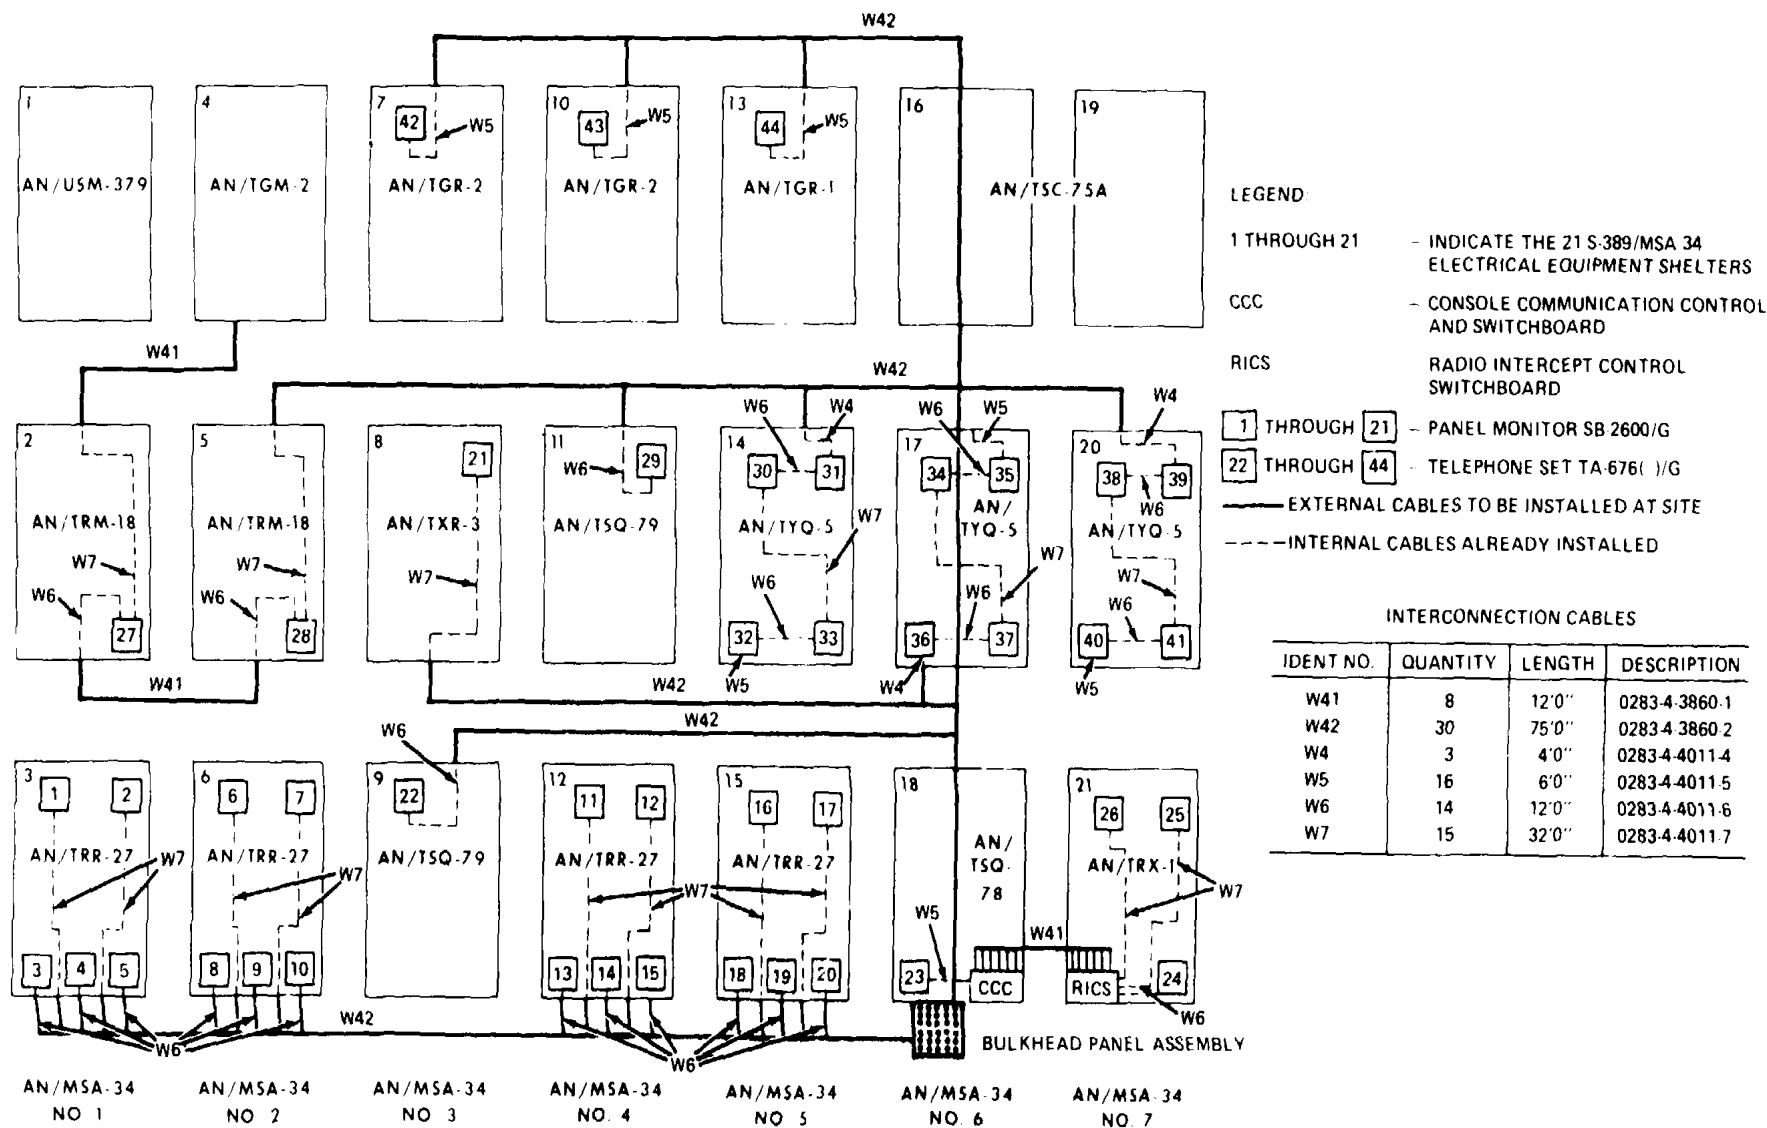

Figure 2-3. Intercommunication System
d. *External Intercommunication Connections.* To connect the external intercommunication connections (figures 2-3 and 2-4) after all the centrals are in place, proceed as follows:
(1) Remove the eight 12-foot interconnecting cables marked W41 and the thirty 75-foot interconnecting cables marked W42 from the storage cabinets.
(2) Using six of the W41 cables, interconnect the Communications Control Console (CCC) OA-7735/G
to the Radio Intercept Control Switchboard (RICS) SB-2602/G located in the Radio Identification Central AN/TRX-1 as shown in figure 2-3 and listed in table 2-1. The cables run from the AN/TSQ-78 (shelter 18) through the walkway to the AN/TRX-1 (shelter 21).
(3) Use the seventh W41 cable to interconnect the intercom equipment in the two AN/TRM-18 facilities (shelters 2 and 5), figure 2-3, through the cable access holes in the end of the shelters.
(4) Use the eighth W41 cable to similarly interconnect the intercom equipment in the AN/TRM-18 (shelter 2) to the intercom equipment in the AN/TGM-2 (shelter 4).
(5) Connect one end of each of the W42 cables to the bulkhead panel connectors J1 through J18 and 2J1 through 2J10, 2J15 and 2J17. Lay the cables over the roofs of the shelters and connect each of the other ends of the W42 cables through the pass thru's on the ends of the shelters to the intercommunication equipment in the shelters as shown in figure 2-3.